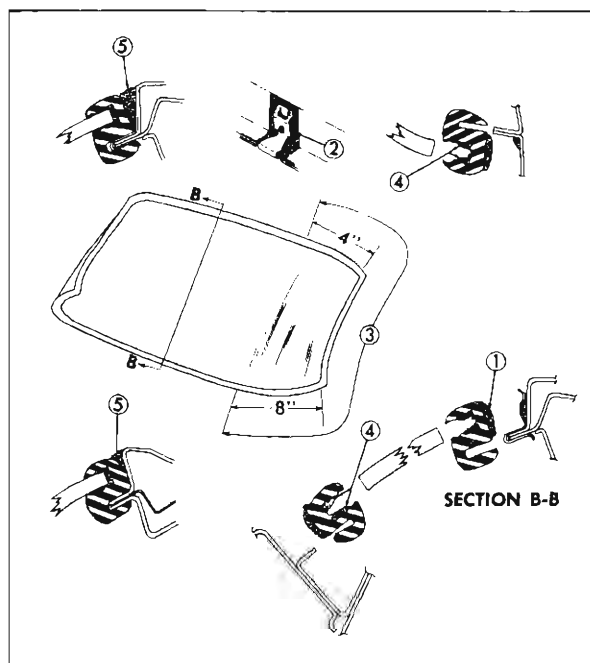

Fig. 2-10 Windshield Sealing
4. Apply a ribbon of medium-bodied sealer completely around base of rubber channel (See No. 1 Fig. 2-10).
5. Inspect condition of each molding clip, install new clips where necessary, make certain clips are properly sealed to pinchweld and body (see No. 2 Fig. 2-10) except 67 styles.
9. Using a pressure type applicator, seal inner and outer lips of rubber channel to glass with an approved weatherstrip adhesive (No. 4 Fig. 2-10). Seals are to extend completely around rubber channel.
11. On outside of windshield apply medium-bodied sealer between windshield rubber channel and opening across top and sides (No. 5 Fig. 2-10).
weatherstrip adhesive (No. 4 Fig. 2-10). Seals are to extend completely around rubber channel.
6. On outside of windshield, apply medium-bodied sealer between windshield rubber channel and opening across top and sides (No. 5 Fig. 2-10).